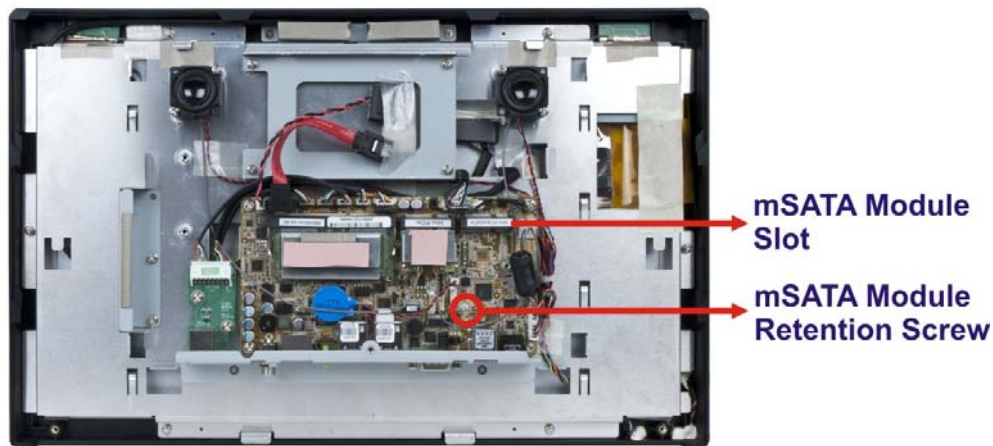

Figure 3-5: mSATA Module Slot Location
- Step 2:** Locate the full-size PCIe Mini card slot. Remove the preinstalled retention screw on the screw pillar of the PCIe Mini card slot as shown in **(Figure 3-5)**.